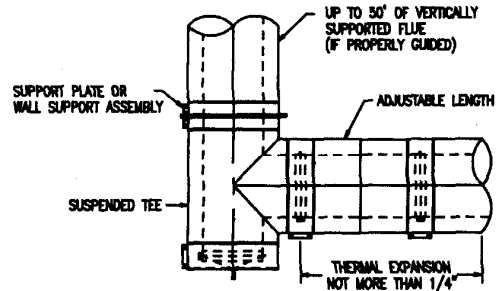

Figure 7 - Suspended Tee
- A. Suspended Tee - Support Plate or Wall Support at upper tee joint as shown in Figure 7.